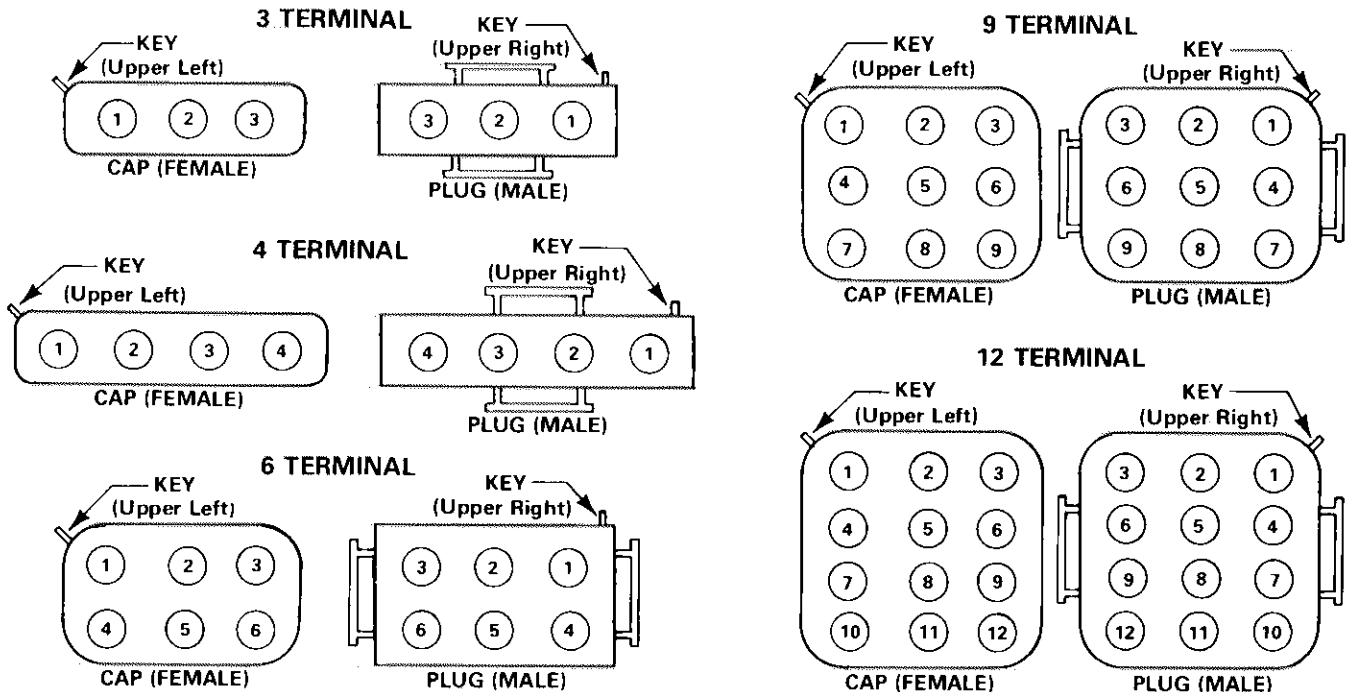

FIGURE 21
- 3 - Terminal numbers on jack plugs are located by a ridge on the corner of the plug called the "Key." Refer to Figure 21 for proper numbering sequence.